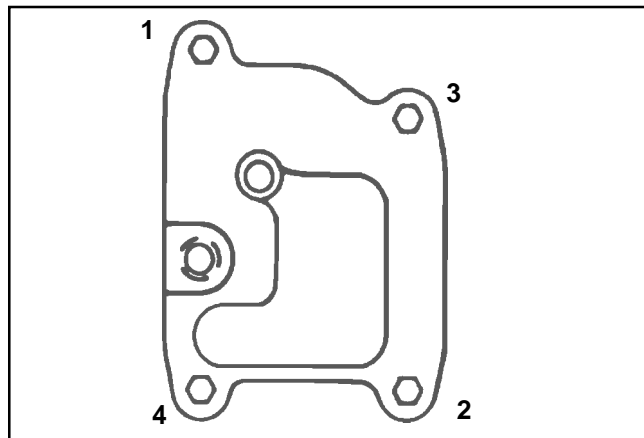

Figure 11-67. Breather Cover Fastener Torque Sequence.
- Torque the four breather cover screws to **7.3 N·m (65 in. lb.)** in the sequence shown in Figure 11-67.